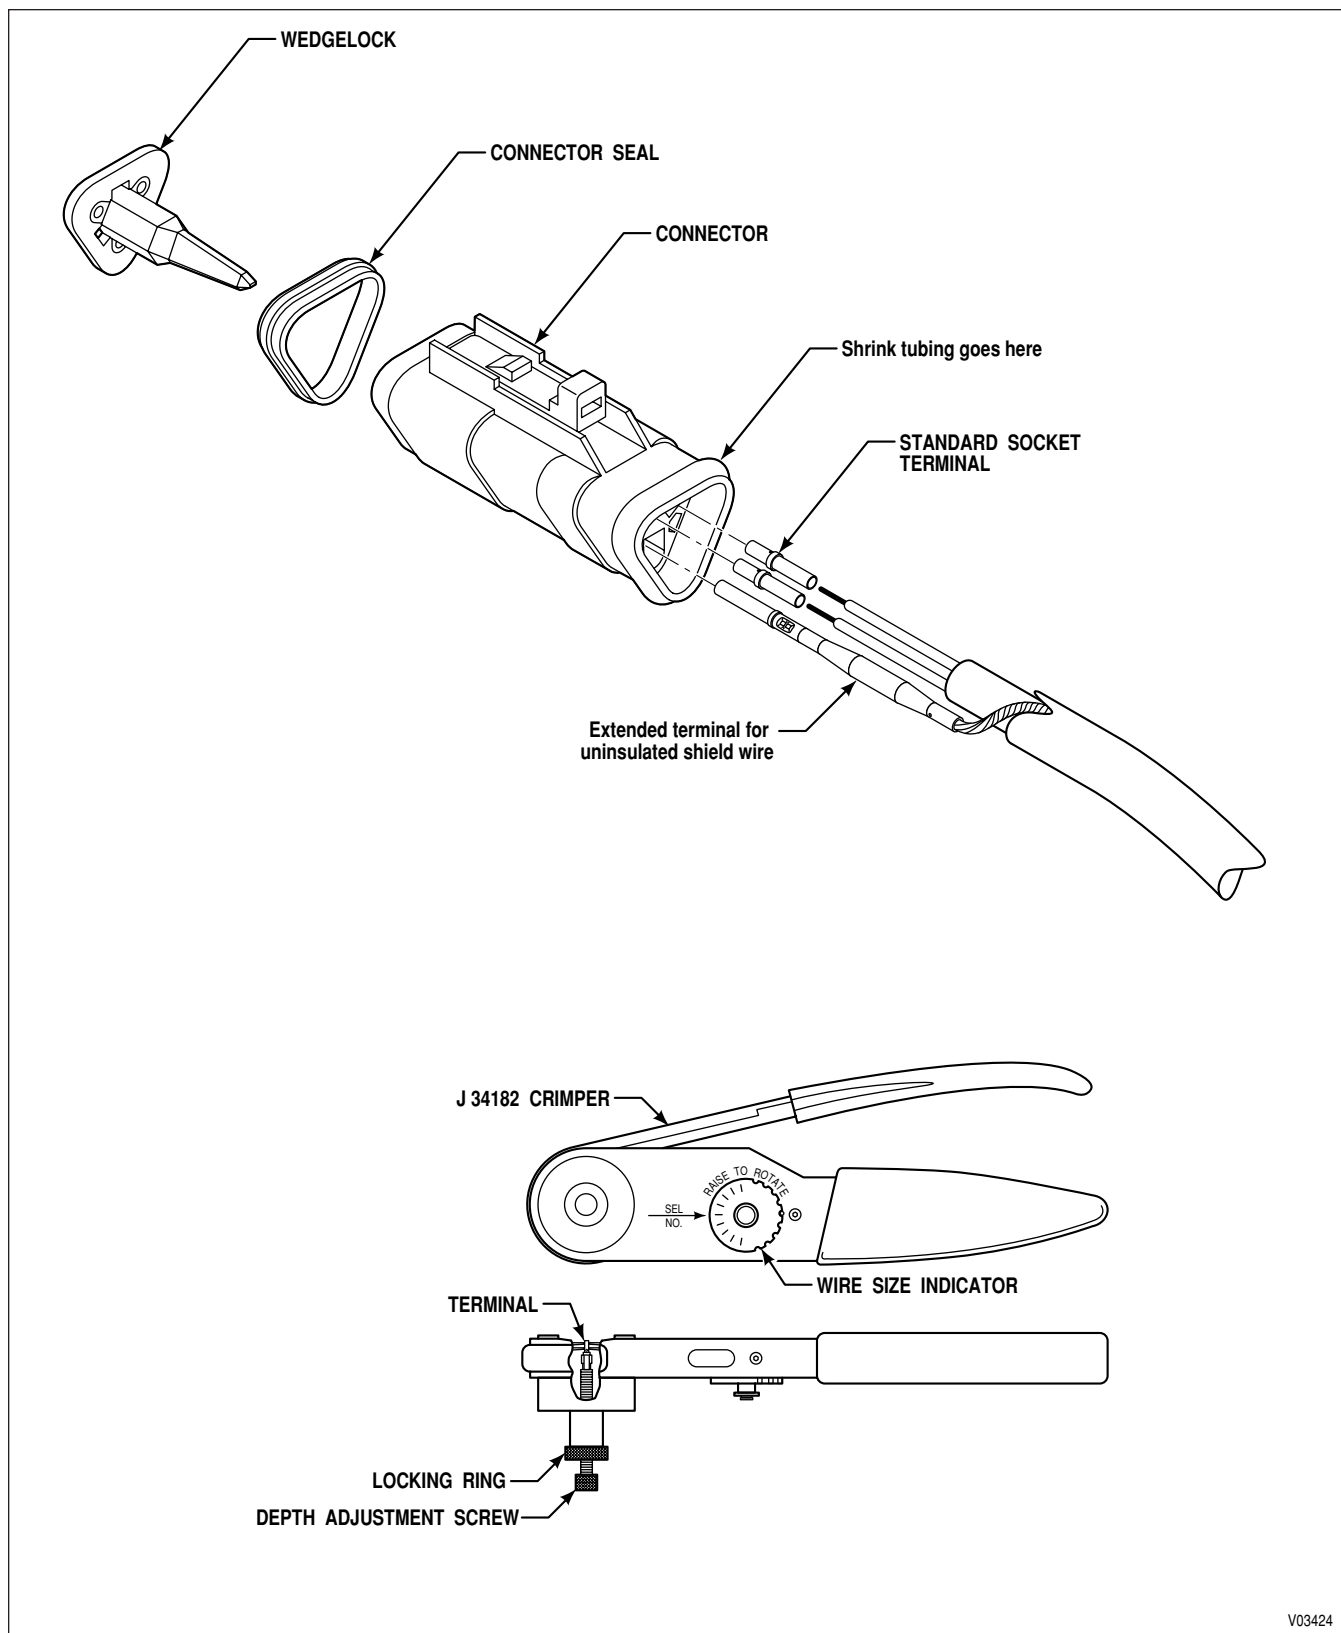

Figure E-7. Deutsch DT Series Connector (3-Way J1939 Interface)
B. Terminal Removal (*Figure E-7*)
C. Terminal Crimping (*Figure E-7*)